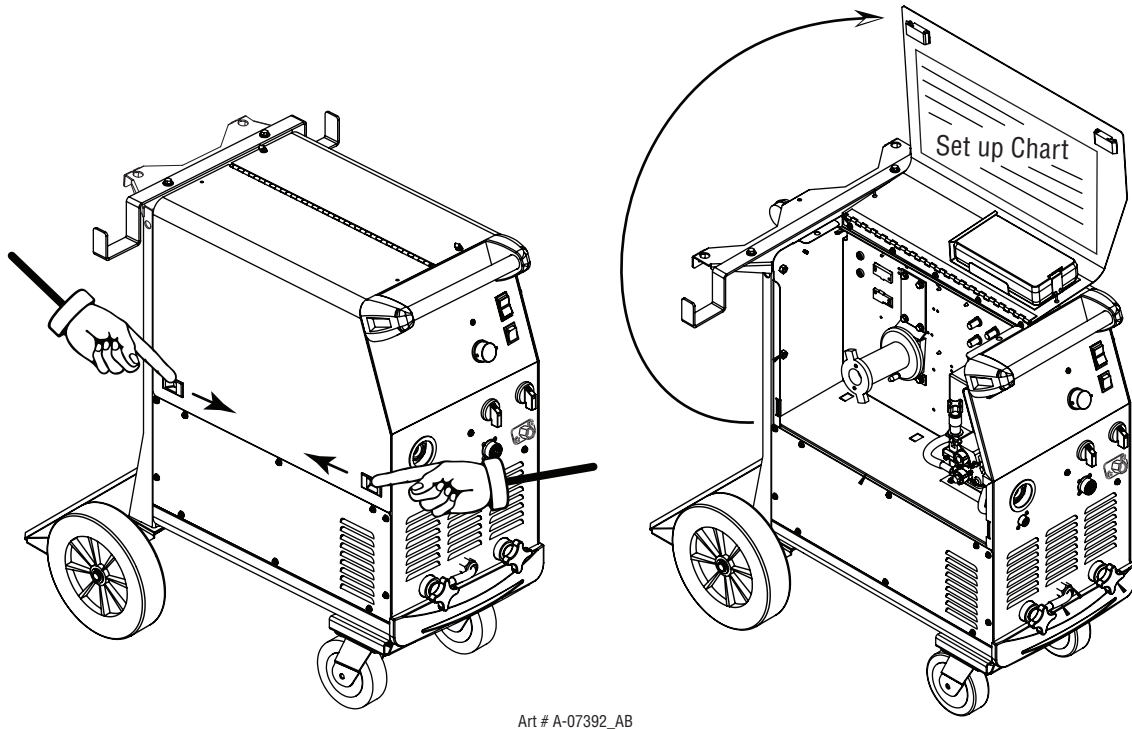

Figure 3-4: Door Panel Opening
1. Open the door panel to the machine by inserting your left and right index fingers into the two release mechanisms marked with hand arrows in Figure 3-4. Slide them toward each other and pull the cover outward and up to open.